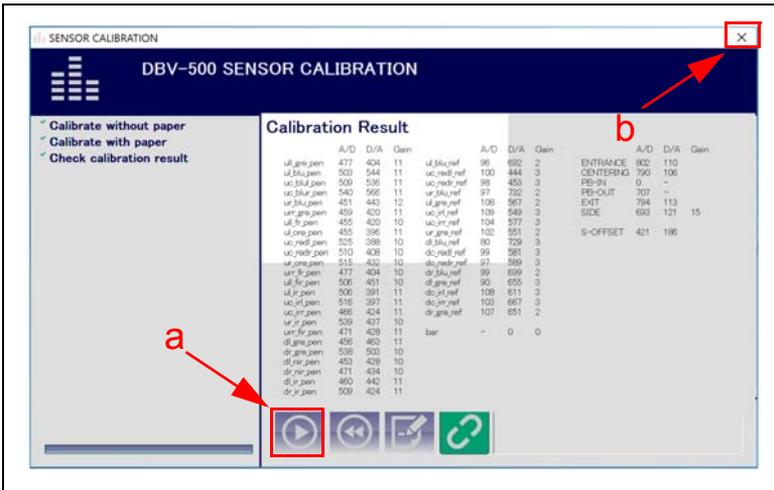

Figure 10 DBV-500 Sensor Calibration Results
11. When the Sensor Calibration Screen appears (Figure 10), click the Start button (Figure 10 a) to save the Calibration Settings to EEPROM.
12. When the “Write EEPROM Succeeded” prompt appears, click the “OK” screen button to close the screen. Then click the Close box × (Figure 10 b) to close the Sensor Calibration Screen and complete the Calibration process.